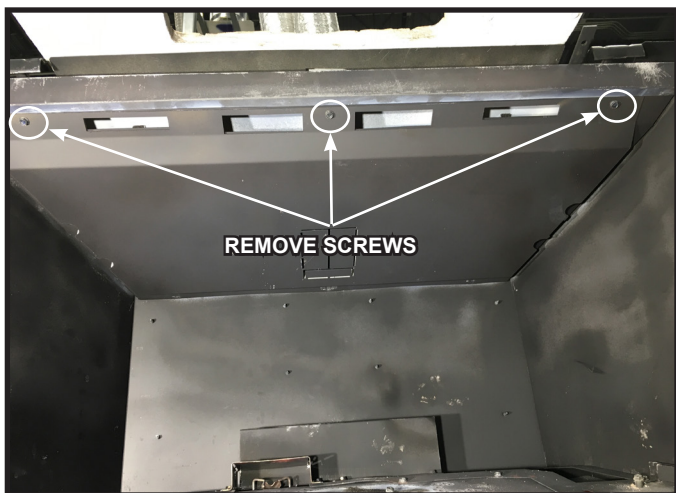

Figure 5.7 Remove Baffle Cover
1. Remove three (3) screws from front edge of baffle cover. See Figure 5.7.